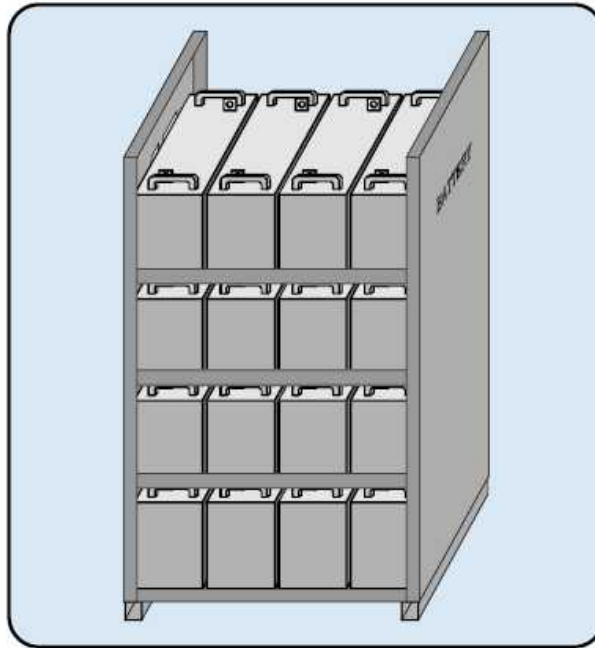

Figure 4
3. Cover the 1,2 and 3 racks. According to the accompanying wiring diagram and list to install the other batteries and wires. Shown as Figure 4.